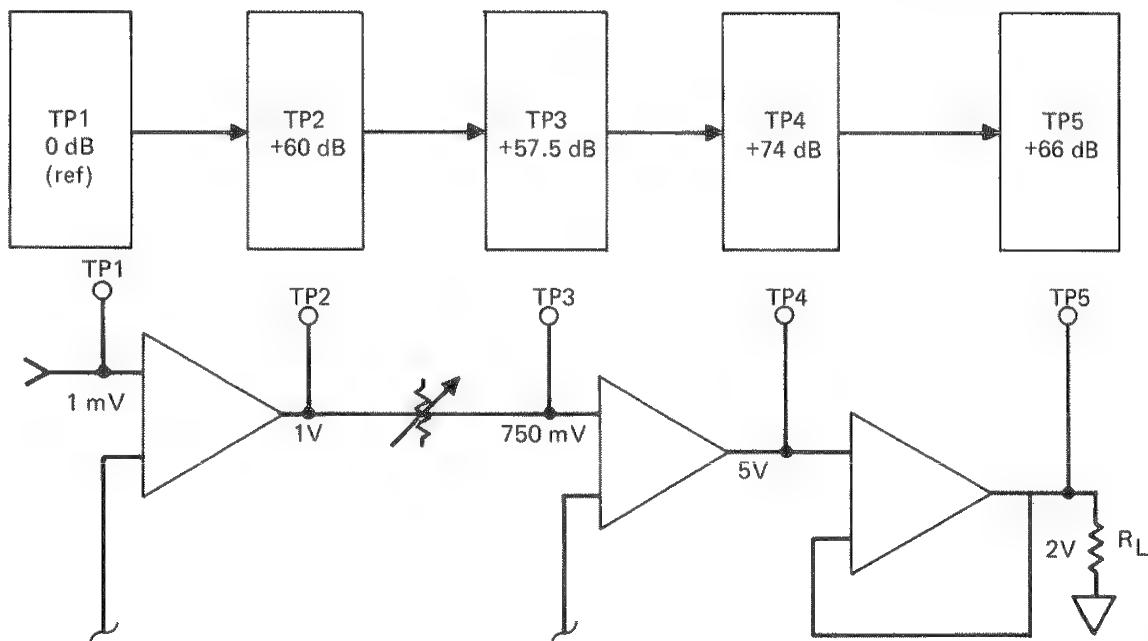

Figure 2-13. dB Circuit Gain or Loss Measurements
- 2-83. The relative function of the 8050A makes it easy to determine the gain or loss (in decibels) of a circuit. By using the relative function, any voltage level can be used as the 0 dB reference point for dB measurements. Figure 2-13 describes how to use the relative function to measure circuit gain or loss in dBs.